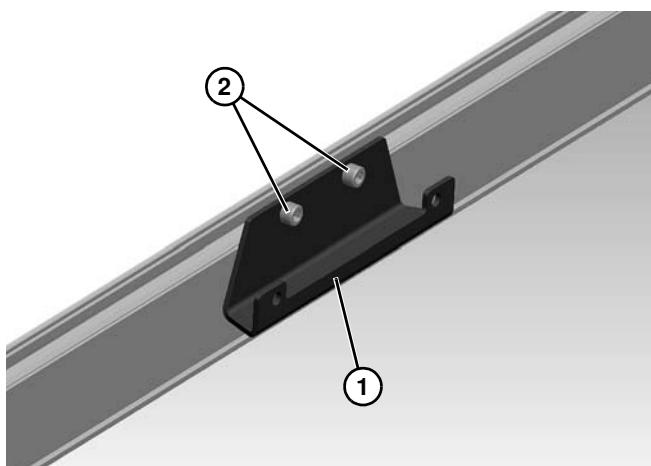
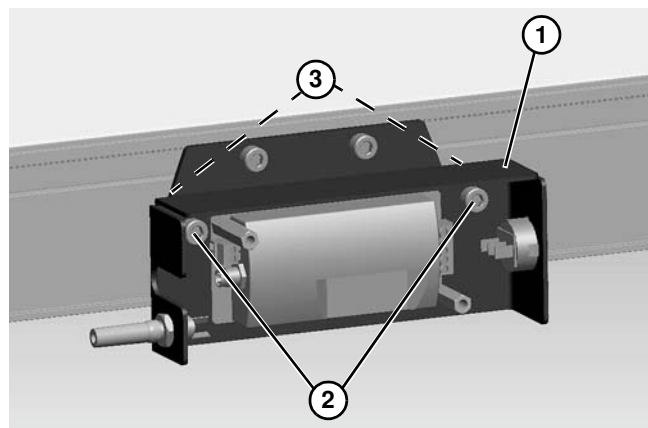

Figure 21
Figure 22
3. Secure mounting bracket (**Figure 21, item 1**) with two screws (**Figure 21, item 2**).
4. Secure controller assembly (**Figure 22, item 1**) onto mounting bracket (**Figure 21, item 1**) with two screws (**Figure 22, item 2**) and nuts (**Figure 22, item 3**).